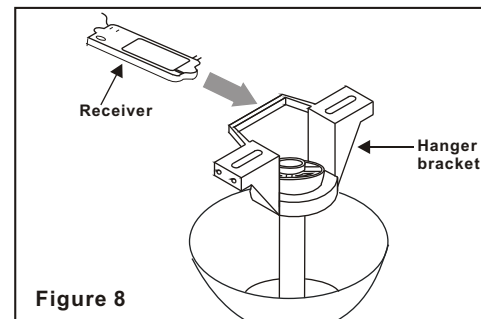

Figure 8
**Step 1.** (Figure 8) Insert the receiver into the mounting bracket with the flat side of the receiver facing the ceiling.